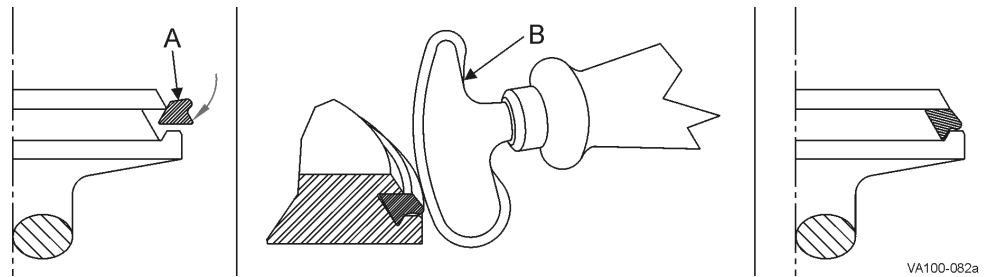
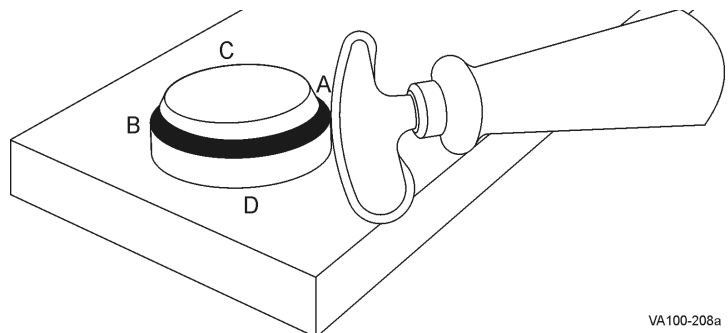

Figure 18 - Installing New Tri Ring Seat
Figure 19 - Pressing Tri Ring Into Plug
3. Lubricate the new Tri Ring (Figure 18, item A) with an acceptable cleansing solution or lubricant.
5. Start the Tri Ring as shown in Figure 18.
6. Using the installation tool, part number 102797 (Figure 18, item B), press the Tri Ring into the plug at locations A, B, C, and D (Figure 19). If the tool is not used, DO NOT use a knife or any other sharp item that will tear or cut the Tri Ring.
8. When properly installed, the Tri Ring seat lip will protrude slightly from the seat edge as shown in Figure 18.